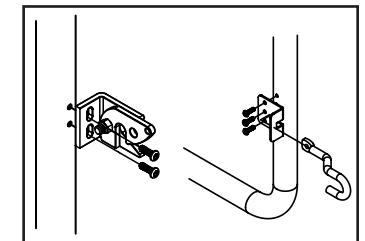

FIG. 9
- c. Install the latch catch assembly into the opposite corner post with the provided $\frac{1}{4}$ " -20 x $\frac{3}{4}$ " Torx screws using the T-30 Torx bit and drill. (Fig. 9, left side)
- d. Screw the hook into the U bent gate piece using the $\frac{1}{4}$ "-20 x $\frac{3}{4}$ " Torx screws. (Fig. 9, right side)